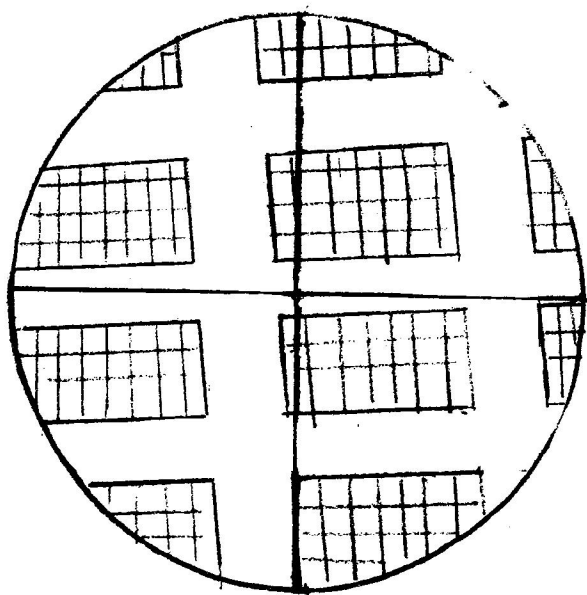

Figure 4-5 Wafer Aligned in Y, but not in Theta
- 8) Press FAST, then BACK or FWD to bring the center of the street under the cross hairs. See figure 4-5.